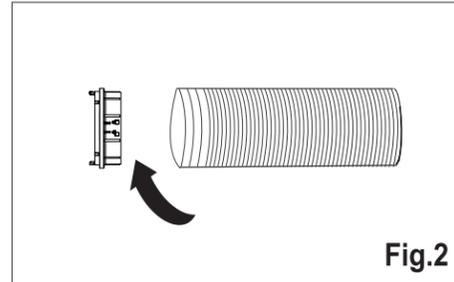

Fig.2
2. Screw the hose inlet (Fig.2).